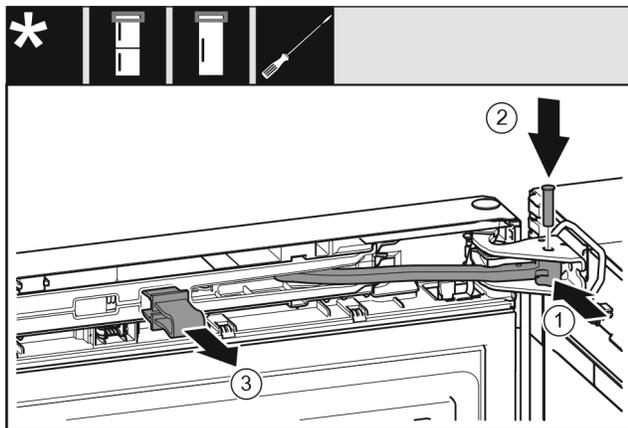

Fig. 48
- ▶ Turn the hinge in the bearing bracket. Fig. 48 (1)
- ▶ Insert the bolt in the bearing bracket and hinge. Make sure that the latching lug is sitting correctly in the groove. Fig. 48 (2)
- ▶ Remove the locking device. Fig. 48 (3)